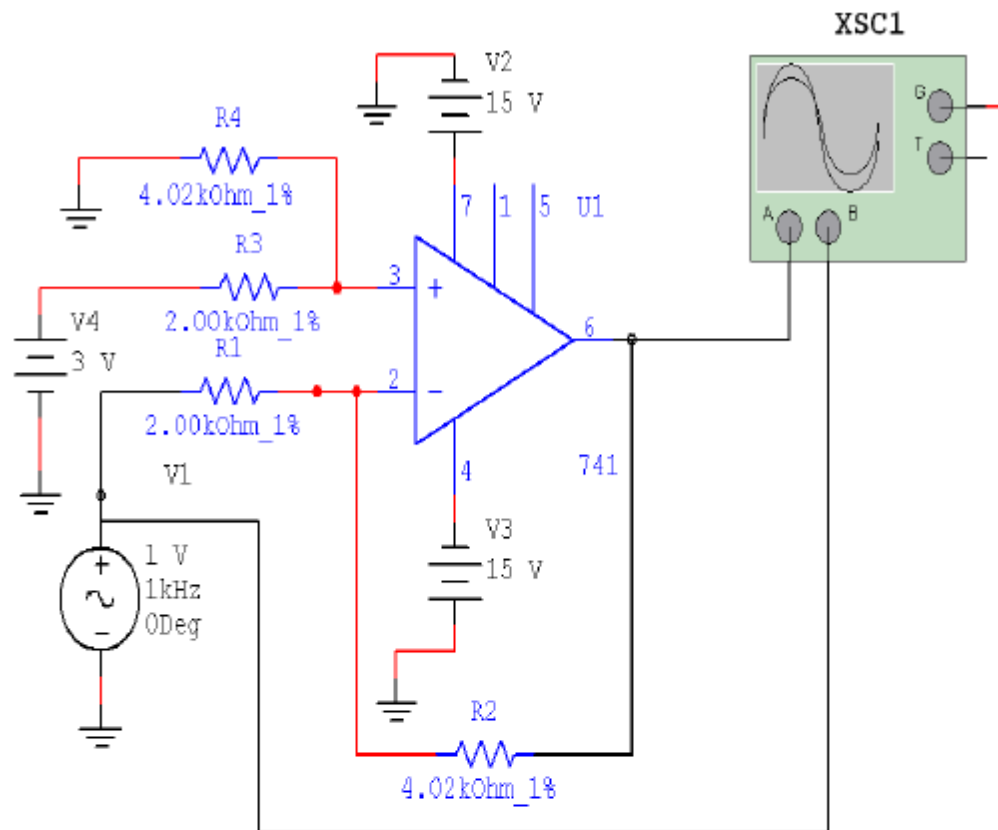

Fig.18 Differential Operational Amplifier
- Construct the circuit shown in Fig.18.